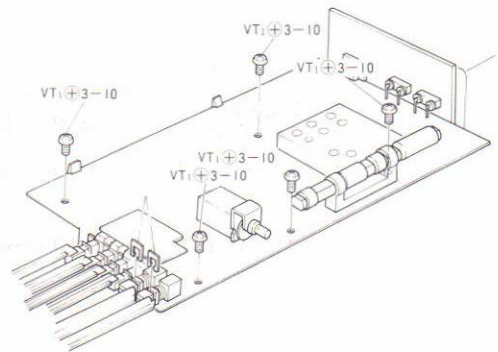

Fig. 5
- 2) Remove 2 stoppers and 5 screws. (Refer to Fig. 5)